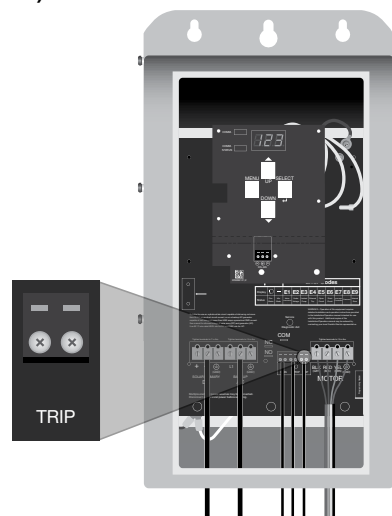

Figure 7. Flow Switch Wiring Connection
1. Connect the cables from the Flow Switch terminals NO and COM to the Terminal Block labeled "TRIP" (Figure 7).